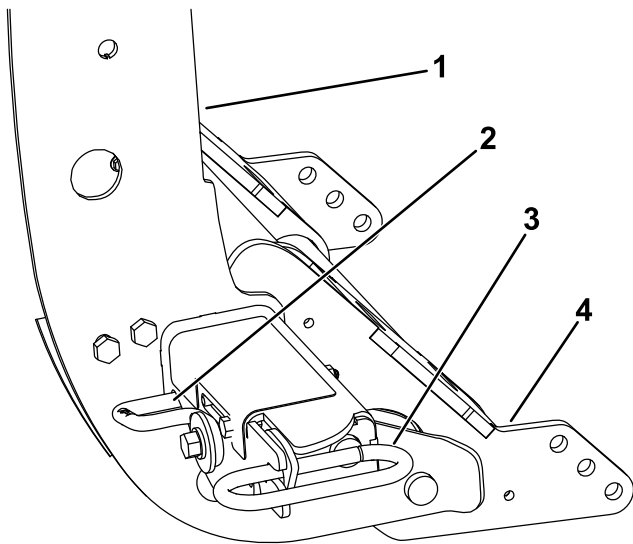

Figure 19
3. Turn the levers on the couplers to the ON position (**Figure 19**).
- Ensure that both coupler spring pins have fully engaged the coupler (Figure 19).